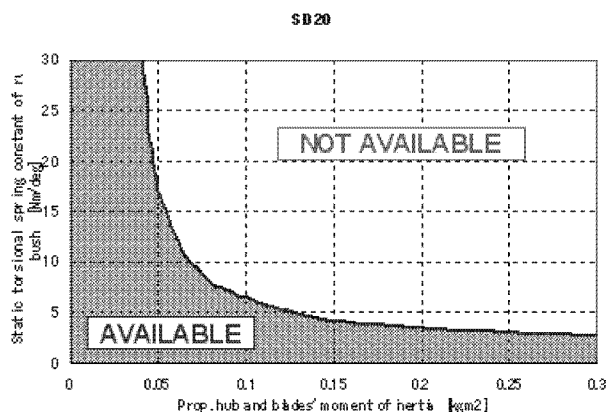

Figure 27
- Maximum allowable moment of inertia (kgm²) in relation to static torsional spring constant (N·m/degree). See **Figure 27**.